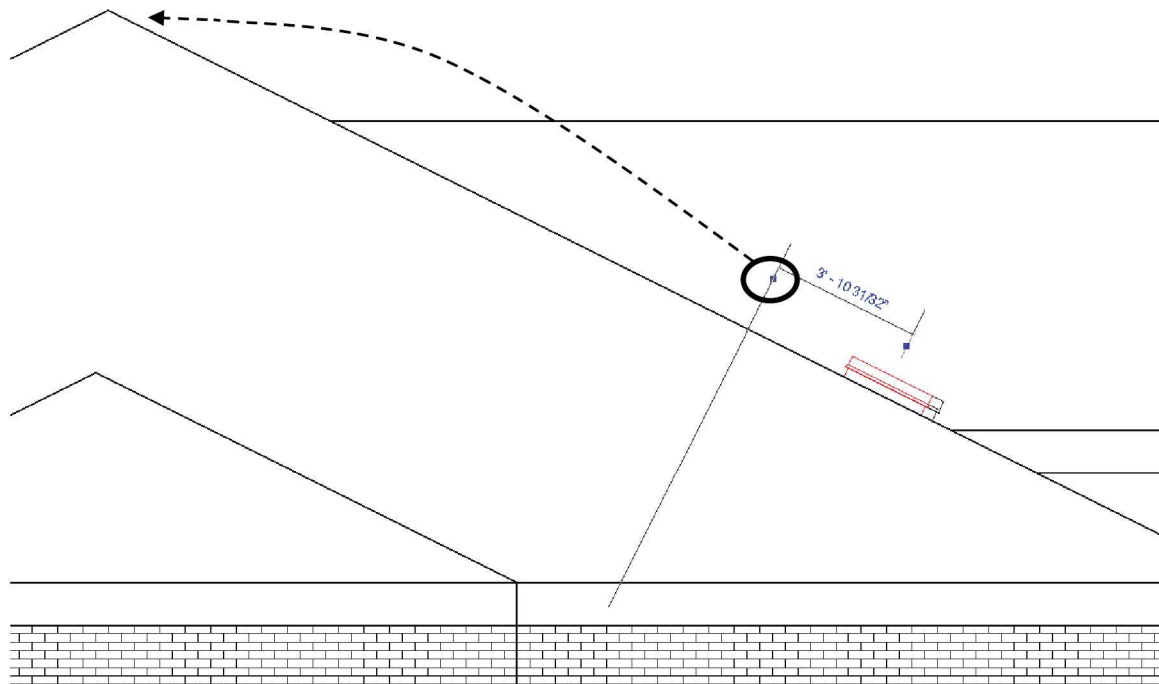
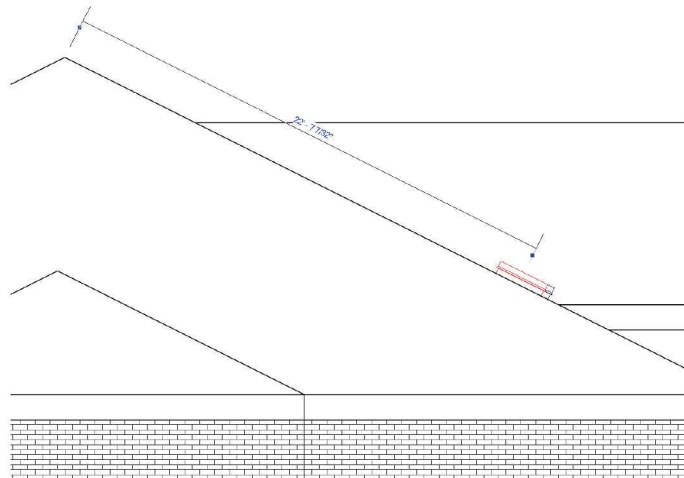

FIGURE 6-2.2 West elevation: default dimension shown when selecting skylight.
FIGURE 6-2.3 West elevation: default dimension shown when selecting skylight.
9. Click and drag the grip shown in Figure 6-2.2 (wait until it snaps) to the ridge of the main roof (Figure 6-2.3).